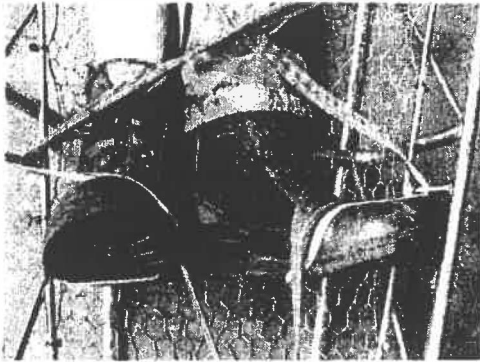

Figure 3-4
- Foot support (Figure 3-4) - Used where leg injuries are not present.